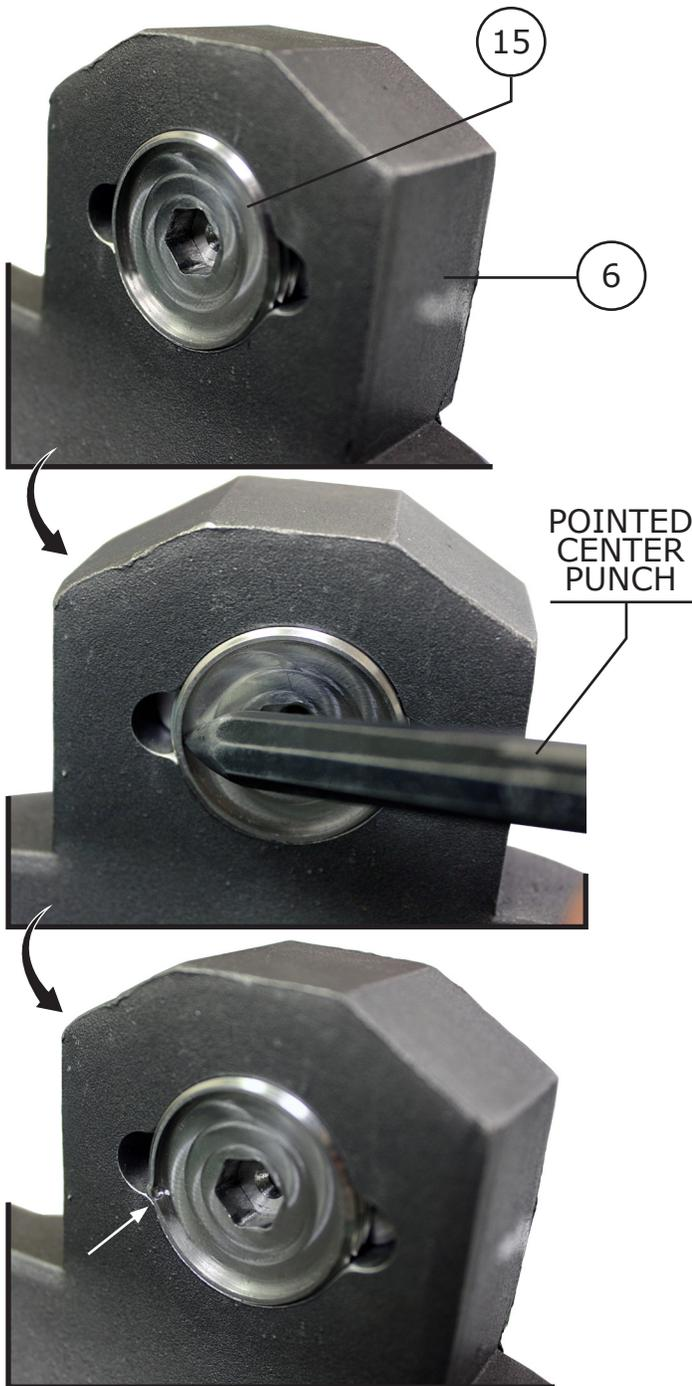

Figure 57 16 Inch Shaft Retainer Stake Details
- 12** Torque the shaft retainers (Key 15) to 90 lbf-ft. (122 N•m). It will be necessary to stake the lip of the recessed portion of the shaft retainers to keep them in place, deformed portion of the shaft retainer lip should catch on the pin hole of the ball (Key 6) ear (refer to Figure 57). Use caution and stake using a pointed center punch.